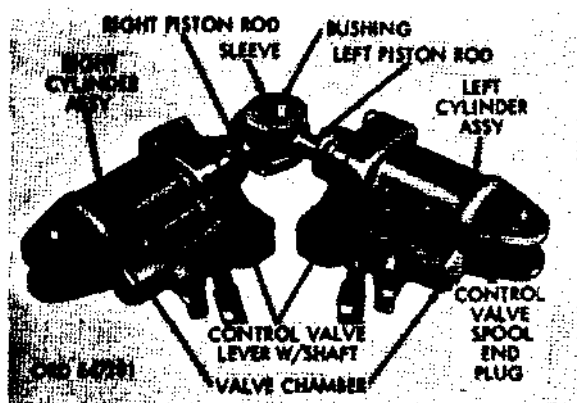

Figure 493. Swing motor - bottom view
- (1) General. The cylinder assemblies of swing motor (fig. 493) are removed from the base plate as one assembly. Separation procedure of the cylinder assemblies is described in (2) below. Disassembly procedures for both cylinder assemblies are identical; however, only the right cylinder disassembly is illustrated.
- (2) Separation of cylinder assemblies. Position piston rod ends of cylinder assemblies in press. Support cylinder assemblies with rod ends in line with ram on press. Use suitable adapter and press sleeve and bushing (fig. 493) from yoke end of piston rod.
- (c) Install control valve spool (P) in valve chamber of right cylinder body (M). Insert control valve spool spring (Q) in cylinder body and secure with control-valve-spool end plug gasket (R) and end plug (S).
(2) Install piston and rod assembly.
- (a) Position piston rod wiper spring (Y) on piston rod wiper (X). Install piston rod cap (Z), piston rod wiper (X), felt washer (W), felt washer retainer (V), chevron seal ring (U), five chevron seals (T), and cylinder body cap (C) on right piston rod (AA). Install piston rod cap on cylinder body cap.
- (b) Position piston (F) on right piston rod (AA) and install slotted hex-nut (G). Insert new cotter pin (H) in end of rod to secure nut.
- (c) Install piston O-ring gasket (E) on outer diameter of piston (F).
- (d) Install four studs (K) in right cylinder body (M). Position cap gasket (D) in cylinder body. Apply a coat of light engine oil to the outer surface of piston (F) and piston O-ring gasket (E). Insert piston in cylinder body and install four hex-nuts (B) and locknuts (A) to secure cylinder body cap (C) to cylinder body.
- (e) Use suitable adapter and press pivot pin bushings (N) into right cylinder body (M).
(3) Connect cylinder assemblies (fig. 493).